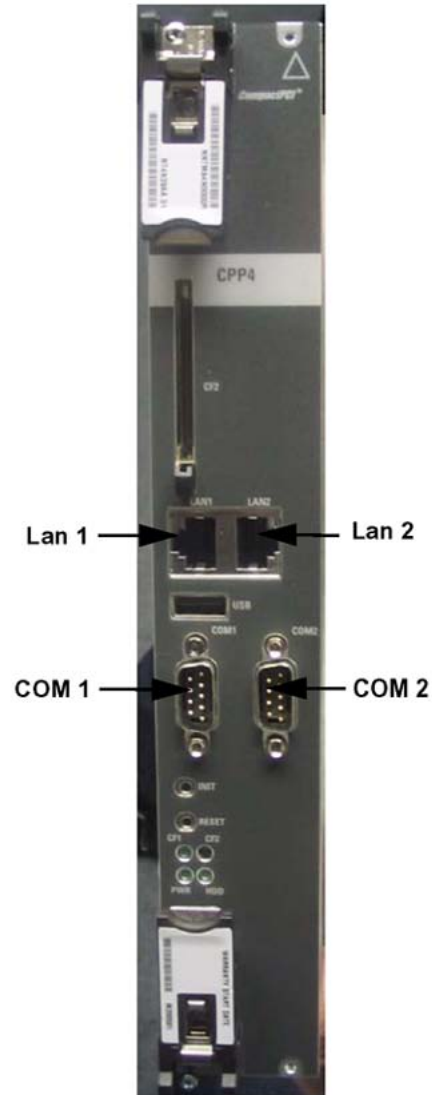
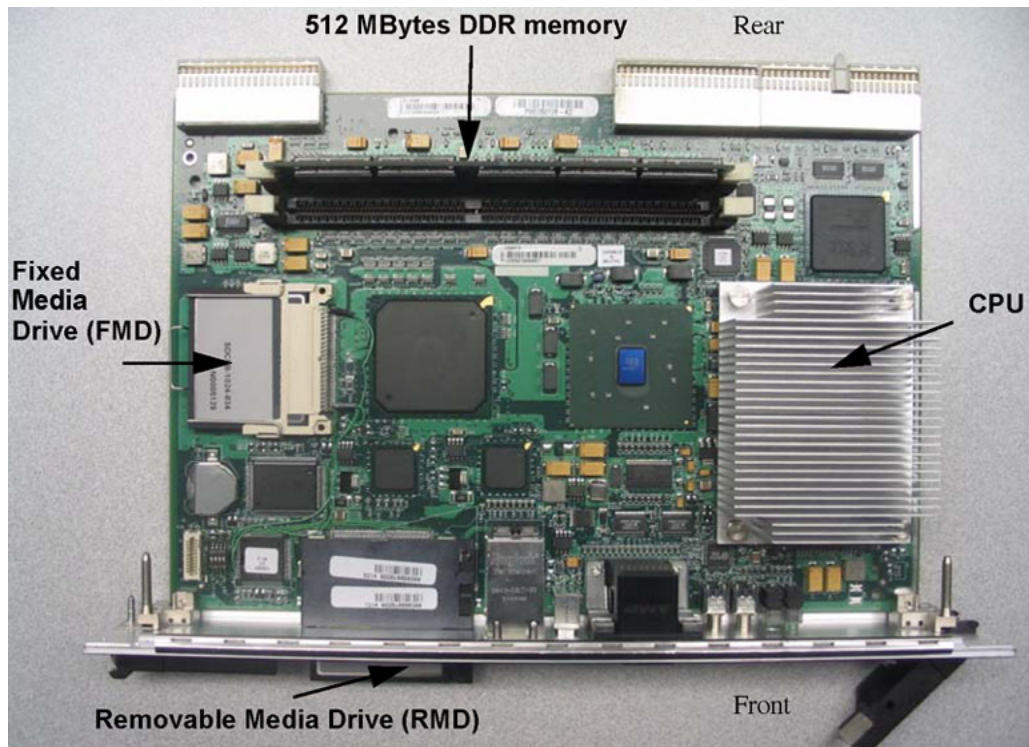

Figure 27: CP PIV card (front)
Figure 28: CP PIV card (side)
- two CompactFlash (CF) sockets (one on-board and one hot-swappable on the faceplate). The on-board CF is referred to as the Fixed Media Disk (FMD), and the faceplate CF is referred to as the Removable Media Disk (RMD). See Figure 27: CP PIV card \(front\) on page 143 and Figure 28: CP PIV card \(side\) on page 144.
The NT4N39AA card measures 23 cm by 16 cm (9,2 in. by 6.3 in.). See Figure 27: CP PIV card \(front\) on page 143 and Figure 28: CP PIV card \(side\) on page 144.